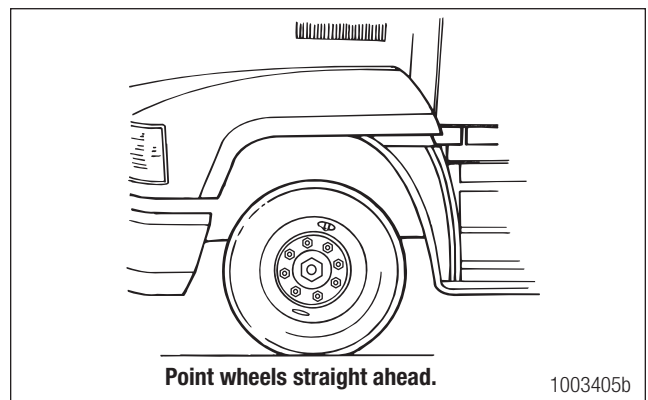

Figure 11.4
1. Turn the vehicle wheels straight ahead. Figure 11.4.